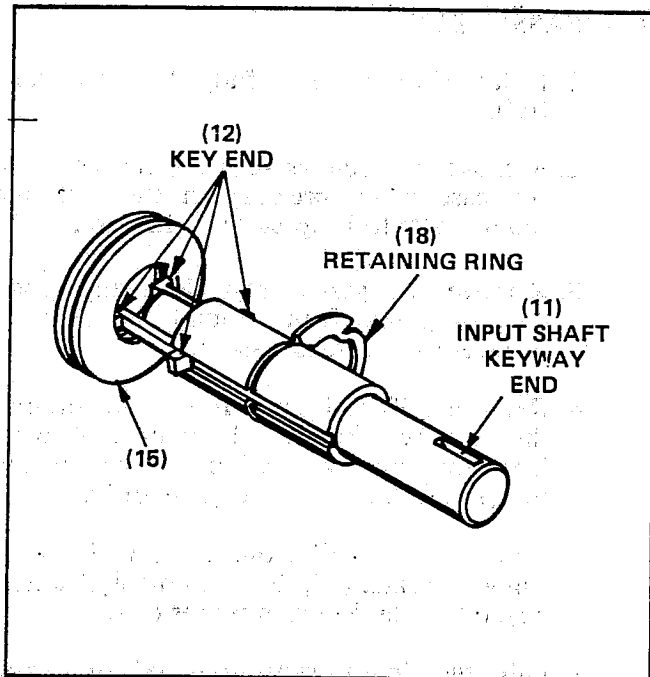
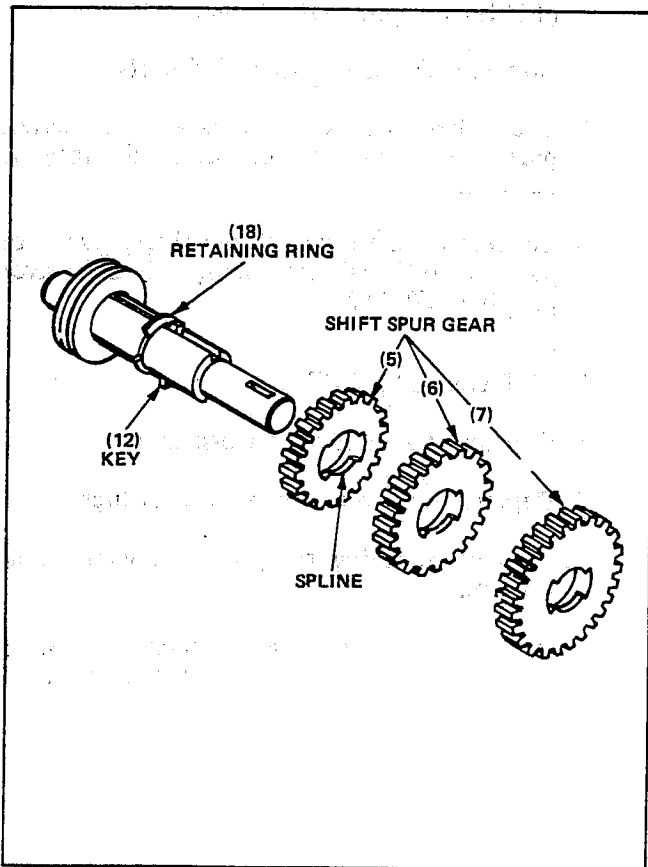

FIGURE 2-37. INPUT SHAFT
FIGURE 2-38. SHIFT SPUR GEAR ASSEMBLY
6. Pull the input shaft out of the case. Remove the shift spur gears. (If the keys are not engaged, the input shaft will come out without the gears). Remove the retaining ring (Fig. 2-37, item 18) from the input shaft. Remove shift collar (15) and key (12) from input shaft.
1. Using the input shaft, Fig. 2-37, install key (12) end into the grooved inside diameter of the shift collar (15). Pilot collar and keys into keyways on input shaft with collar locating opposite keyway end. Install retaining ring (18) on input shaft in groove provided. Be certain the retaining ring keeps at least one key (Fig. 2-38) from moving past ring toward collar.
2. Install gears, Fig. 2-38, with smallest shift spur gear toward collar. Be certain the internal spline on each gear faces away from retaining ring side. Install input shaft with gear (5) into the case half.